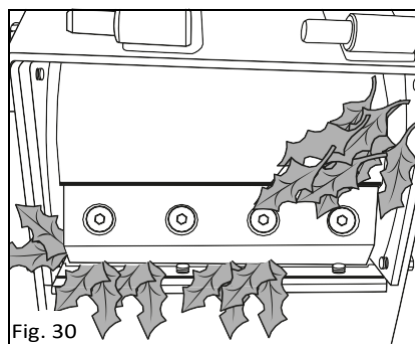

Fig. 30
5. Carefully clean out the cutting and discharge area. Ensure that all debris is removed to prevent the blades from clogging. The discharge area should be free of all organic matter (fig. 30).
6. Once the blades are completely clean refit blade shaft cover (14),hopper (4) and discharge chute (15).